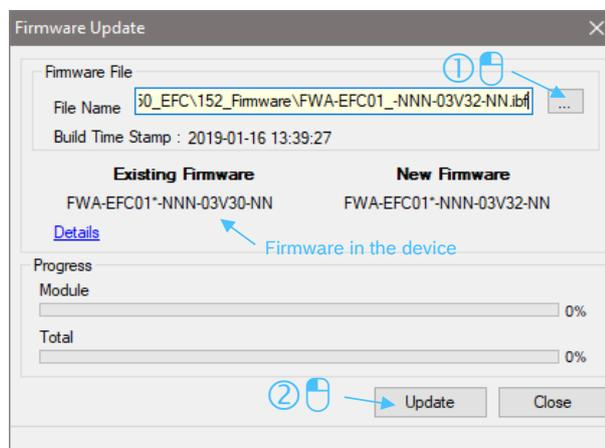

Abb. 13: Firmware update window
- ▶ Click on "..." to navigate to a firmware file (*.ibf) and download it to the device by clicking on "Update" (see Abb. 13: Firmware update window). A firmware downgrade would be performed in the same way.